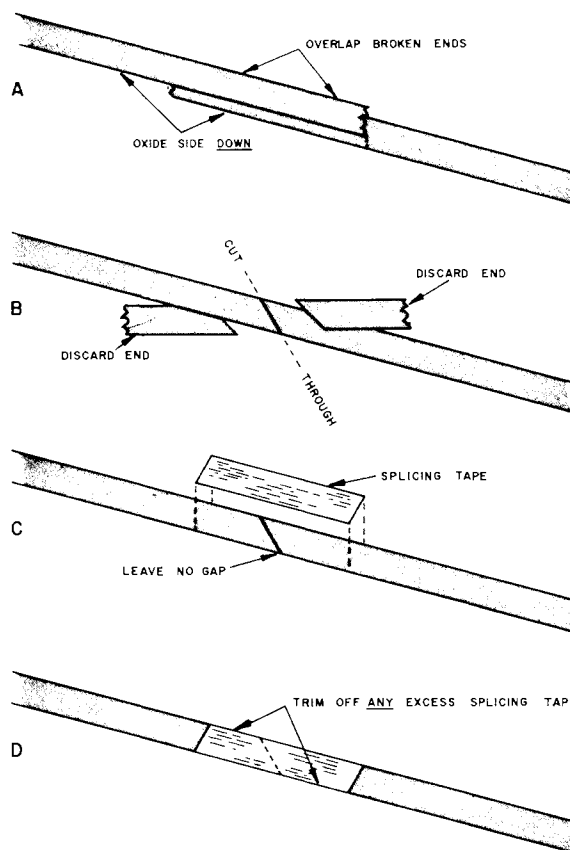

FIGURE 31 METHOD FOR SPLICING
- a. Lay the broken ends of the Recording Tape on a flat surface as shown in fig. 31-A. Lay the oxide (dull) side down.
- b. Cut through both pieces of Recording Tape with razor blade or scissors. See fig. 31-B.
- c. Place a short length of 1/4" wide Splicing Tape on the ends (fig. 31-C).
- d. Trim the Splicing Tape as necessary. Make sure that adhesive is not exposed. The finished splice should appear as in fig. 31-D.